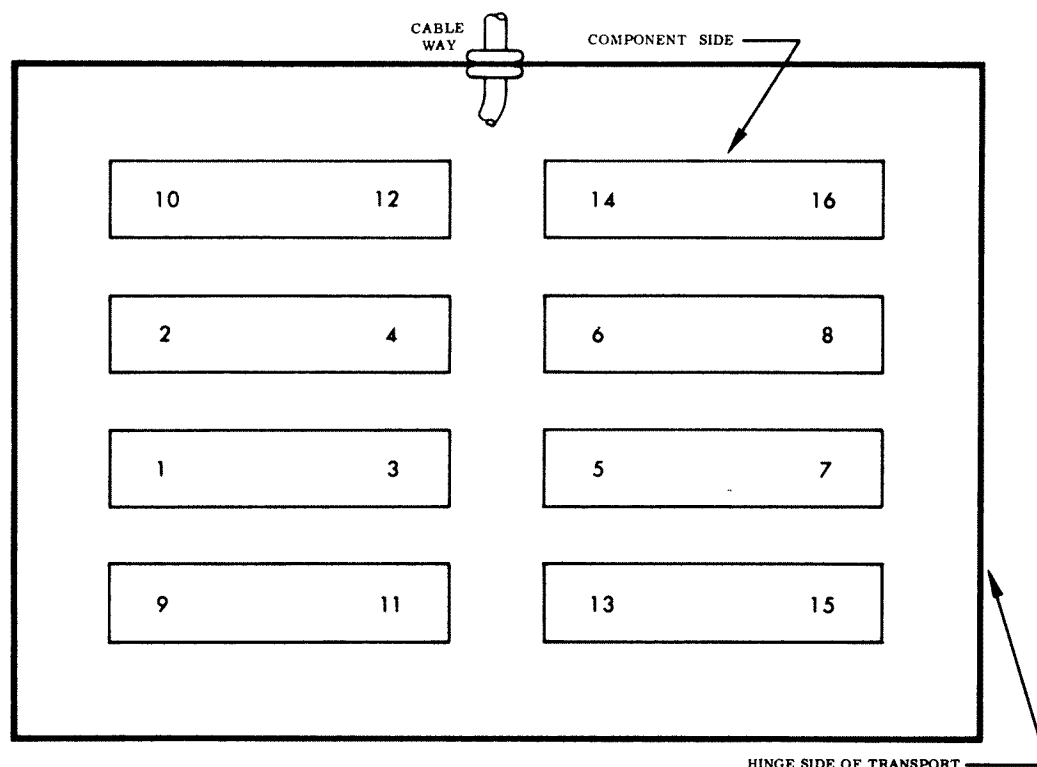

Figure 5-22 Preamplifier Channel Numbering
5. 152 The reproduce preamplifier is used to amplify a channel signal from the reproduce head before it is presented to the reproduce amplifier, thus allowing longer head cables than would otherwise be practical. The reproduce preamplifier, which does not incorporate equalization, is used with all reproducing techniques. The preamplifiers (3 and 4 to a card) are contained on plug-in cards which mount in the preamplifier housing located on the underside of the Tape Transport. Figure 5-22 shows the location of each preamplifier and the number of the channel to which it connects. Power for the operation of the preamplifiers is provided from the ± 12 volts d-c power supply via a decoupling network located beneath the transport overlay plate. An input signal to a preamplifier from a reproduce head varies